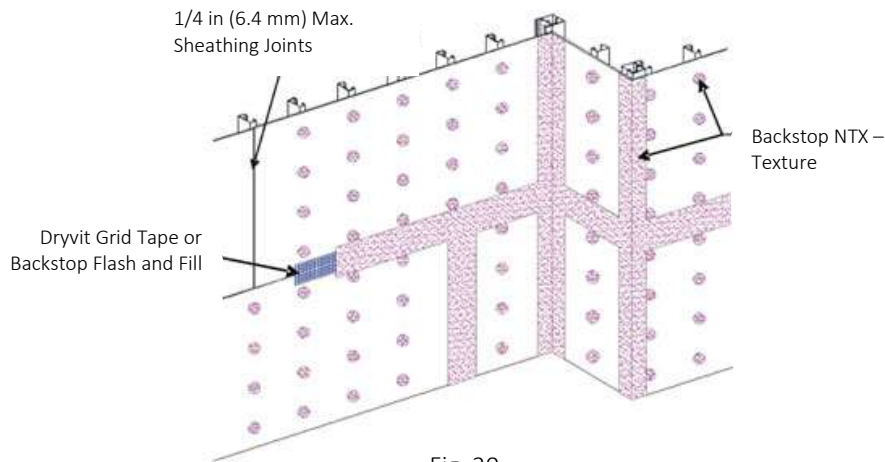

Fig. 20
4. Mix the Backstop NTX – Texture material as described in Section 3.B.2. Using a stainless steel trowel or spatula, apply a layer of Backstop NTX – Texture over the Dryvit Grid Tape and spot all fastener heads – **Figure 20. NOTE: Dryvit Grid Tape is not necessary over fastener heads.**